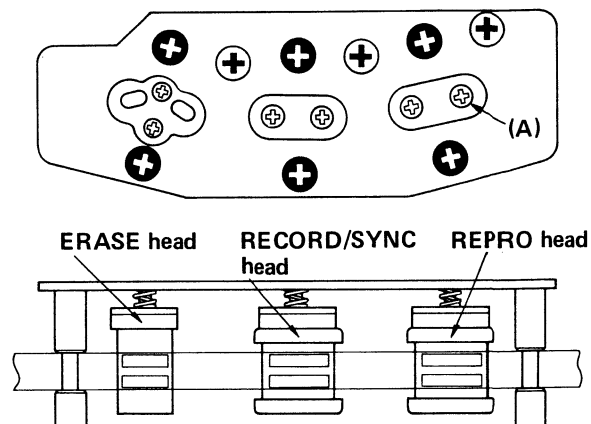

Fig. 2-12
help determine whether head contact is properly adjusted or not. To adjust, loosen the retaining screws (A) for that head (Shown in Fig. 2-12) and change the direction of the head for proper alignment.